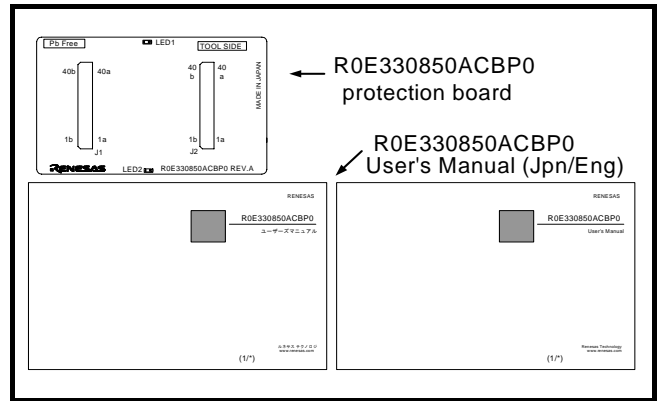

Figure 1 Package components of the R0E330850ACBP0
2. Package Components (See Figure 1)